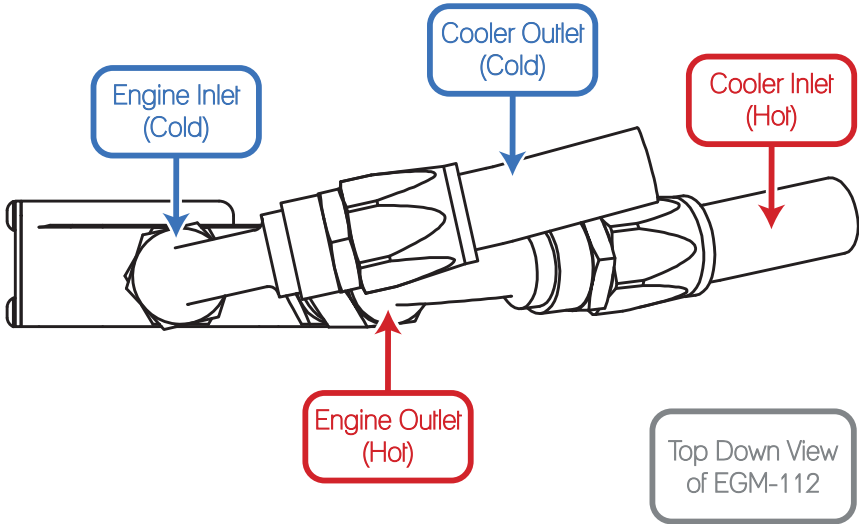

Figure 4 - Hose-End Alignment on EGM-112
6. Orient the 90° hose end fittings as shown in Figure 4 and tighten both hose ends to the oil cooler adapter.